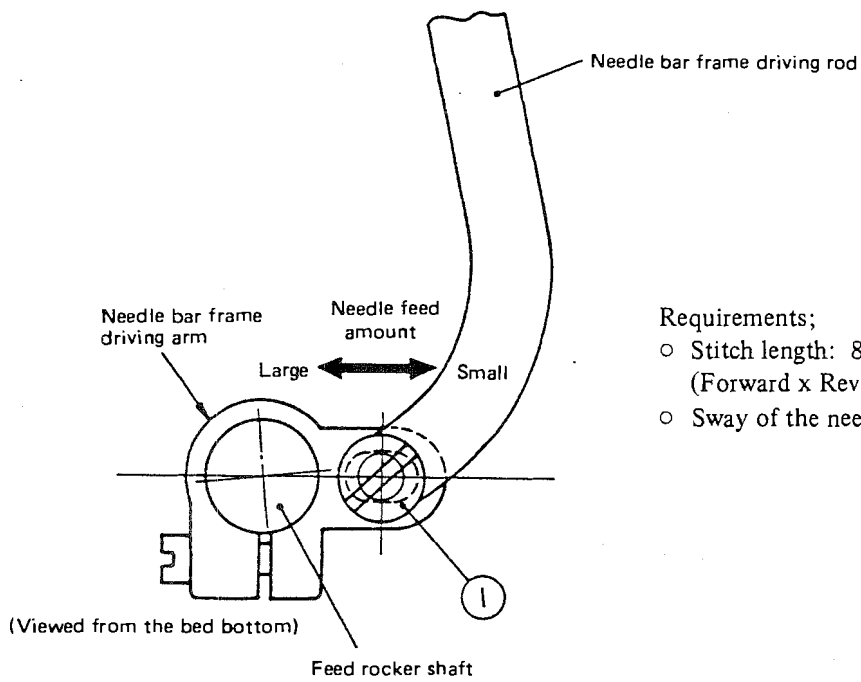

Fig. 25
<ol style="list-style-type: none"> <li>1. Set the stitch dial to the maximum.</li> <li>2. Loosen screw ① shown in Fig. 25, and move the needle bar frame driving rod to make adjustment.</li> <li>3. Tighten screw ①, and turn the handwheel by hand to check the sway of the needles. Position the needle bar frame driving rod so that the needle sway is minimized. Then fix the rod to the needle bar frame driving arm.</li> </ol> <p>(Note) 1) After this adjustment, the position of the needle center with respect to the needle feed slots must be readjusted.</p> <p>2) The specified distance (14.2 (0.559") ± 0.1 (0.04")) mm between the presser bar and needle bar is also disturbed in making the above adjustment. Readjust the distance.</p>	<ul style="list-style-type: none"> <li>○ Needle breaking may occur.</li> <li>○ Stitch skipping may occur.</li> </ul>